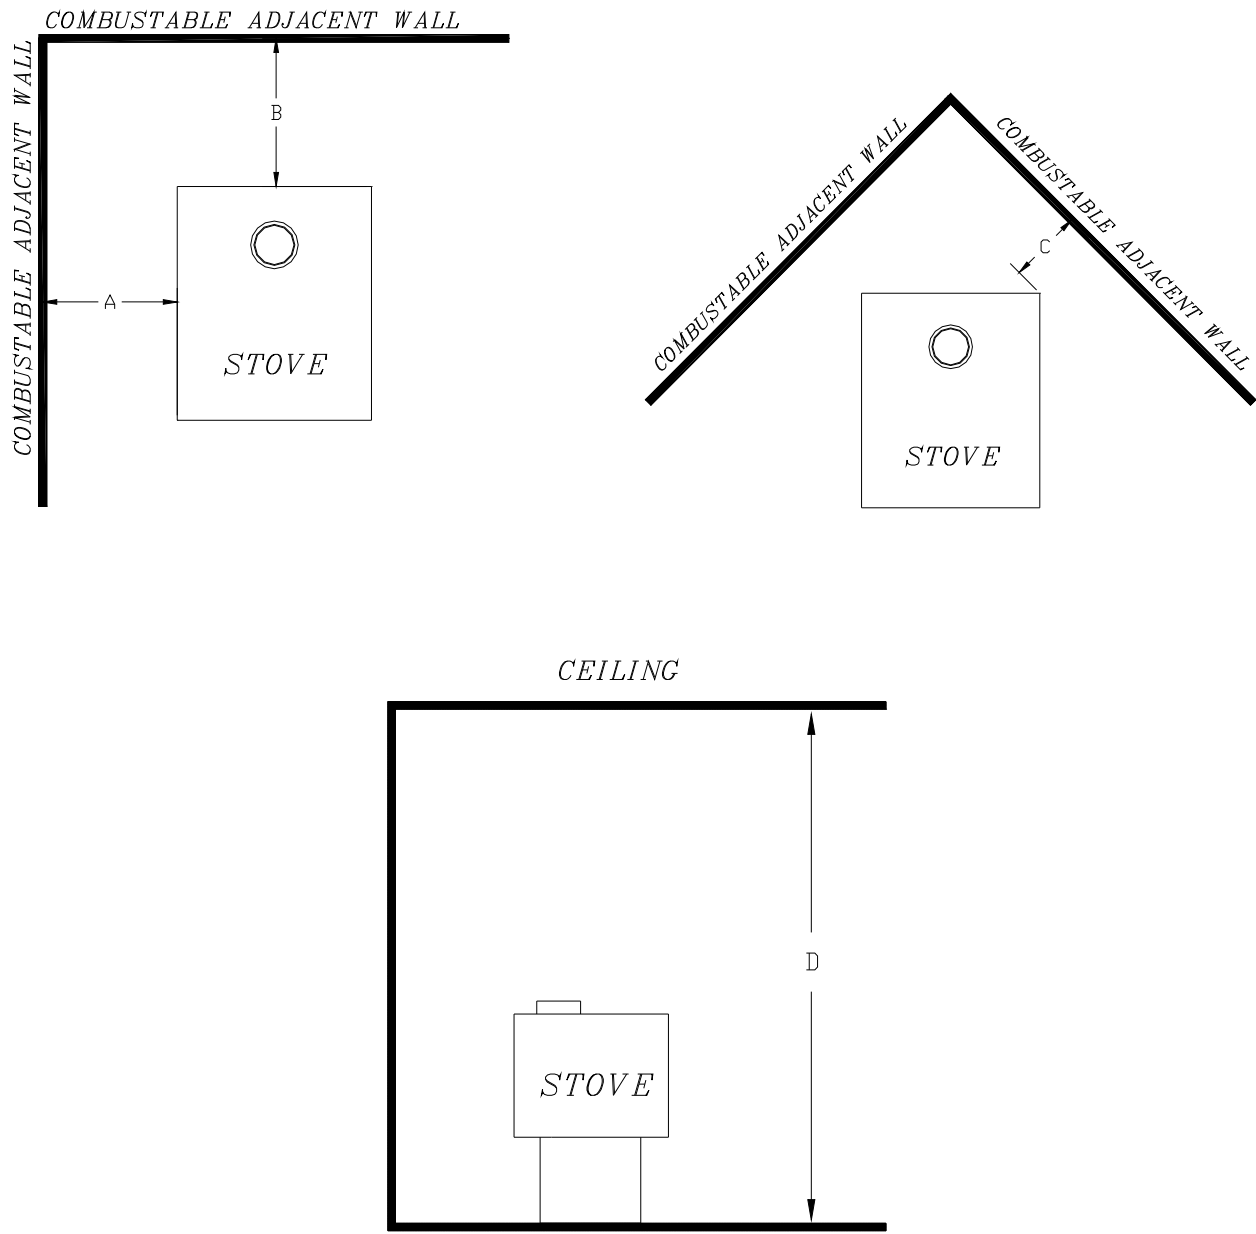

Figure 1.3 Clearances to combustible materials
**See Figure 1.3 on the following page